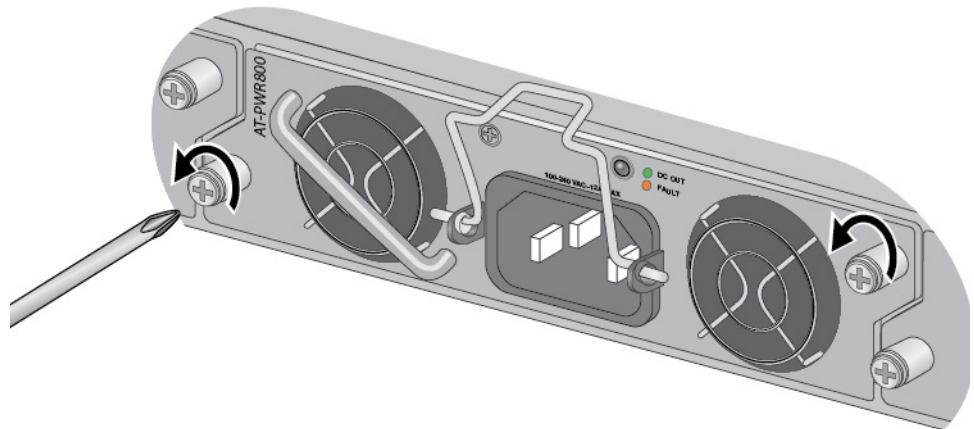

Figure 64. Loosening the Two Captive Screws
3. Loosen the two retaining screws on the power supply with a cross-head screwdriver. Refer to Figure 64.
8. Loosen the two retaining screws on the power supply with a cross-head screwdriver. Refer to Figure 64.